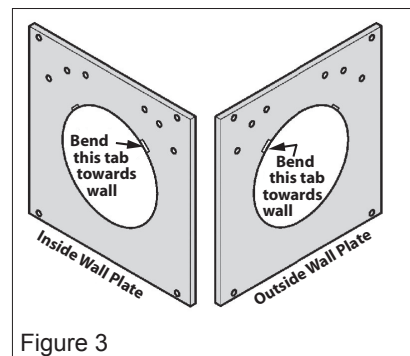

Figure 3
2. Bend the inner wall plate tab as shown in figure 3 so that the seam on the terminal tube will pass clearly through the plate with the wall shield at the top. Place the inner wall plate over the terminal unit.